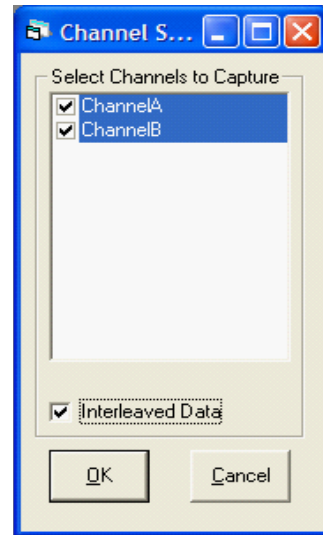

Figure 23. Channel Selection
1. Click Config > Channel Select, opening the window shown in Figure 23. Double-check and make sure the Interleaved Data box is selected. Click **OK**. Note that Channel A in the software corresponds to Channel 1 on the FIFO schematics and the bottom FIFO on the evaluation board. Channel B corresponds to Channel 2 on the FIFO schematics and the top FIFO on the evaluation board (closest to the Analog Devices logo). See the Jumpers section for more information.